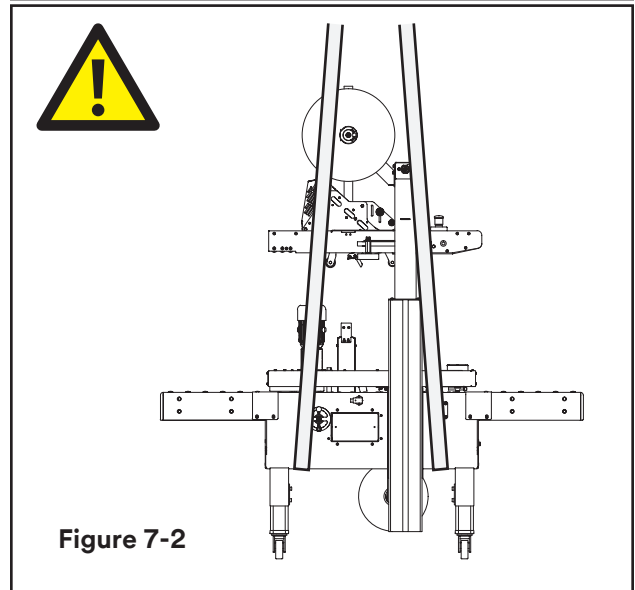

Figure 7-2
1. Lift the machine with belts or ropes paying attention to place belts in the points (Figure 7-2).